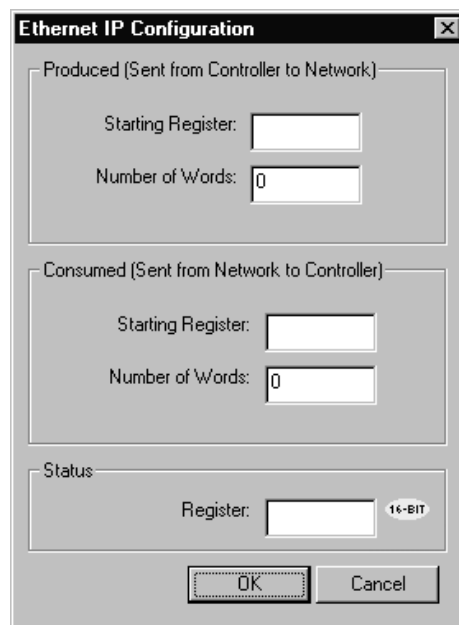

Figure 9.2 - Ethernet IP Configuration Dialog
3. Click on the **Config** button next to the **Ethernet IP** checkbox to open the Ethernet/IP Configuration dialog (Figure 9.2).